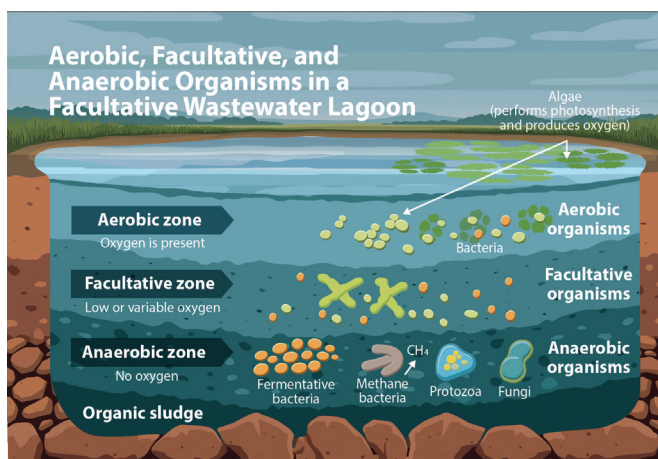

Figure 12. Aerobic, Facultative, and Anaerobic Organisms in a Facultative Wastewater Lagoon.
- In **facultative lagoons**, both aerobic and anaerobic processes take place in different layers, depending on the availability of oxygen (Figure 12).